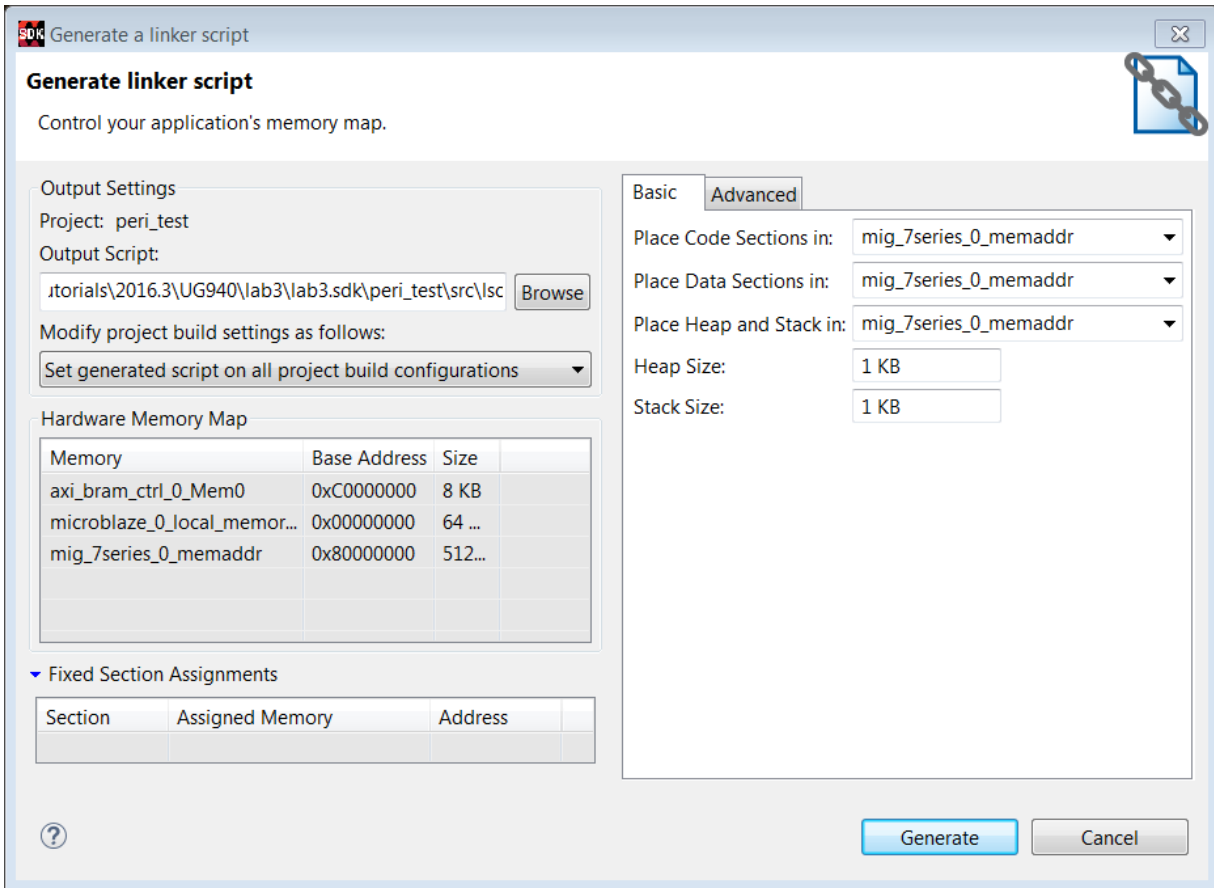

Figure 113: Basic Tab of the Generate a Linker Script Dialog Box
7. Right-click the `peri_test` application in the Project Explorer and select **Generate Linker Script**. The Generate Linker Script dialog box opens, as shown in Figure 113.